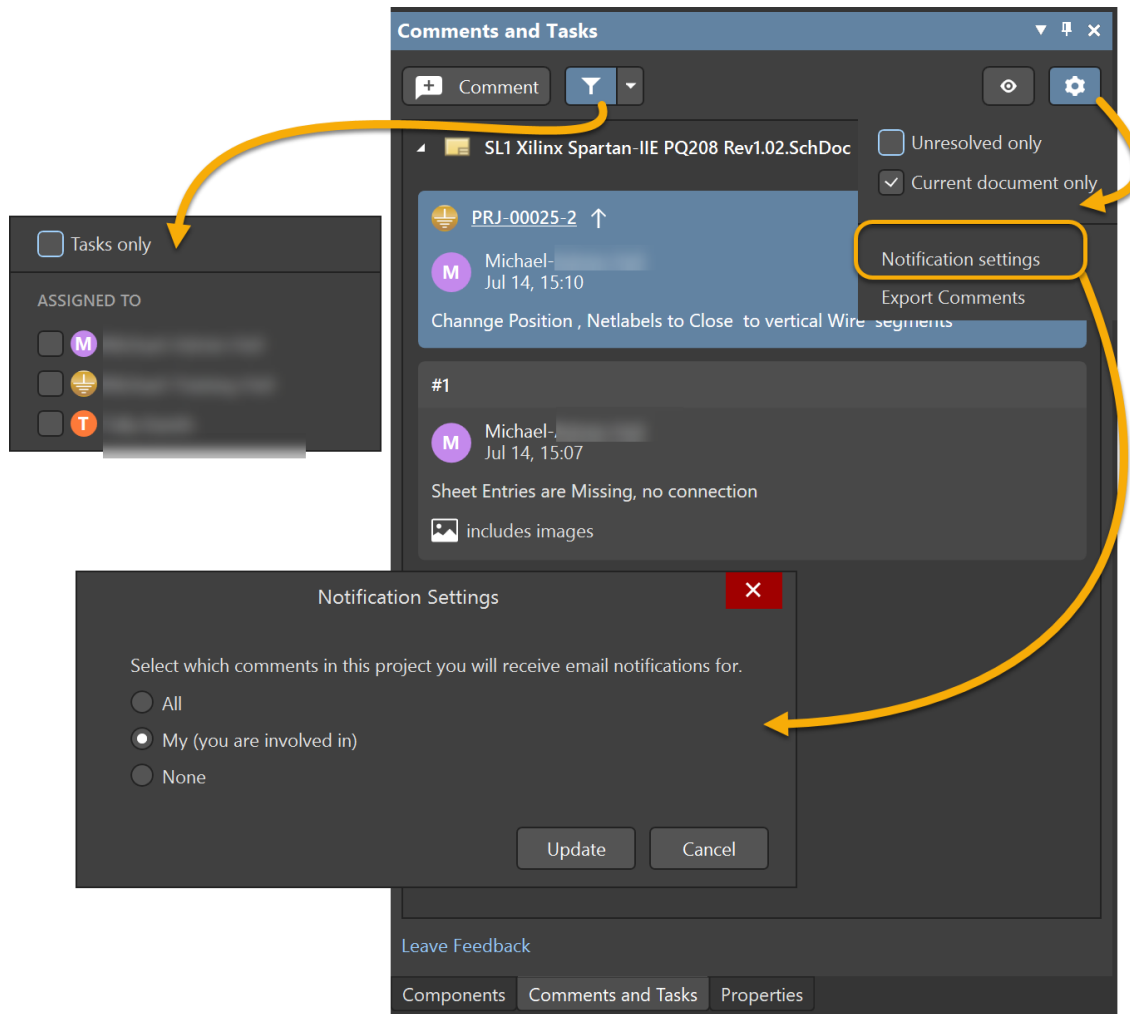

Figure 8. Configuration for the Comments and Tasks panel
15. Feel free to open the configuration  and the filter  for the *Comments and Tasks* panel to configure the list of comments / tasks you see at the panel, Figure 8.